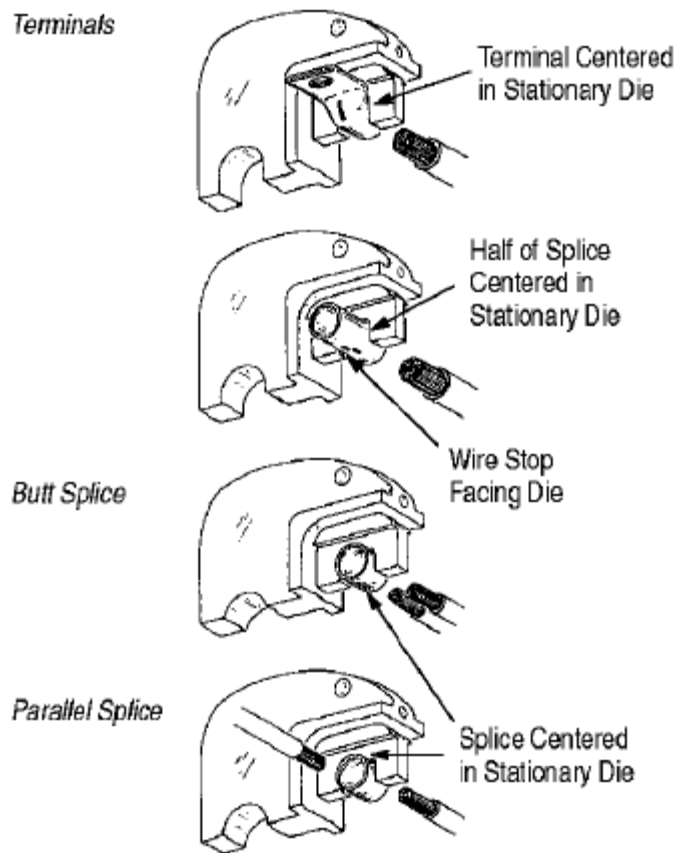

Figure 4
- Center the terminal or splice in the stationary die as shown in Figure 4.